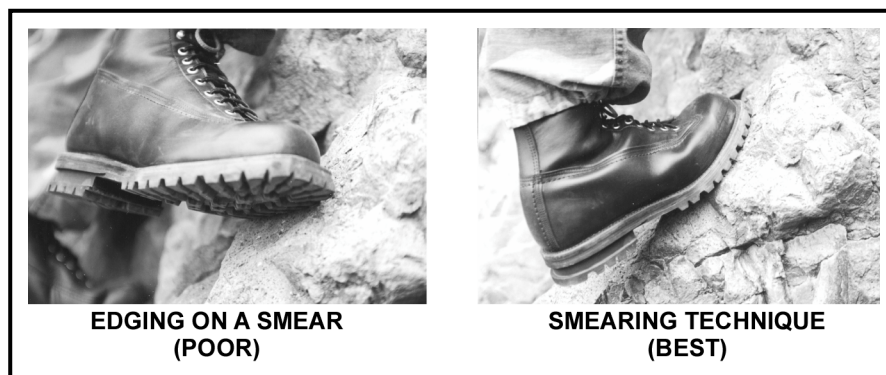

Figure 6-6. Examples of the smearing technique.
(3) **Smearing.** When footholds are too small to use a good edging technique, the ball of the foot can be “smeared” over the hold. The smearing technique requires the boot to adhere to the rock by deformation of the sole and by friction. Rock climbing shoes are specifically designed to maximize friction for smearing; some athletic shoes also work well. The Army mountain boot, with its softer sole, usually works better for smearing than for edging. Rounded, down-sloping ledges and low-angled slab rock often require good smearing technique. (Figure 6-6 shows examples of the smearing technique.)